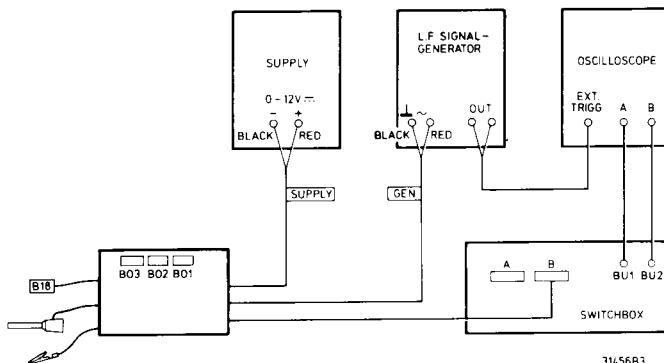

Fig. 6
- Place the target block into pos. 1 on the deck.
- Place the target block into pos. 2.
- Connect the signal generator, the oscilloscope and the d.c. power supply, as shown in Fig. 6.